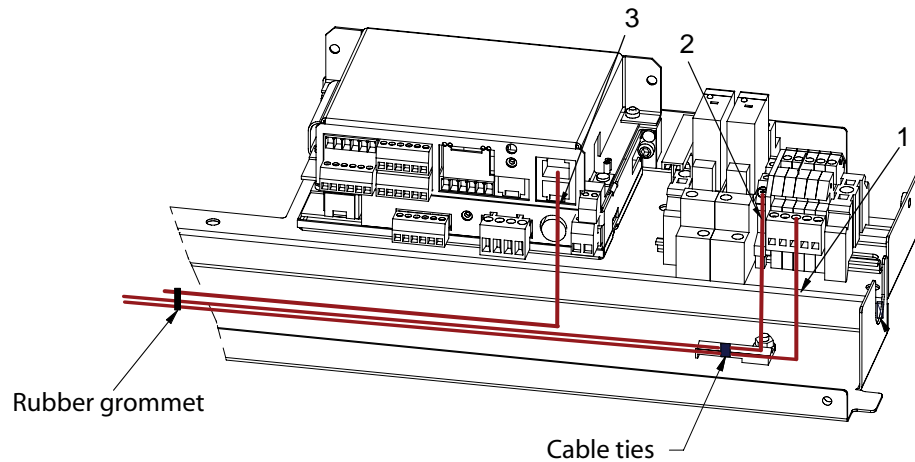

Fig. 4-22
- Connect the drive unit to the electrical plate Y, see Fig. 4-22 .